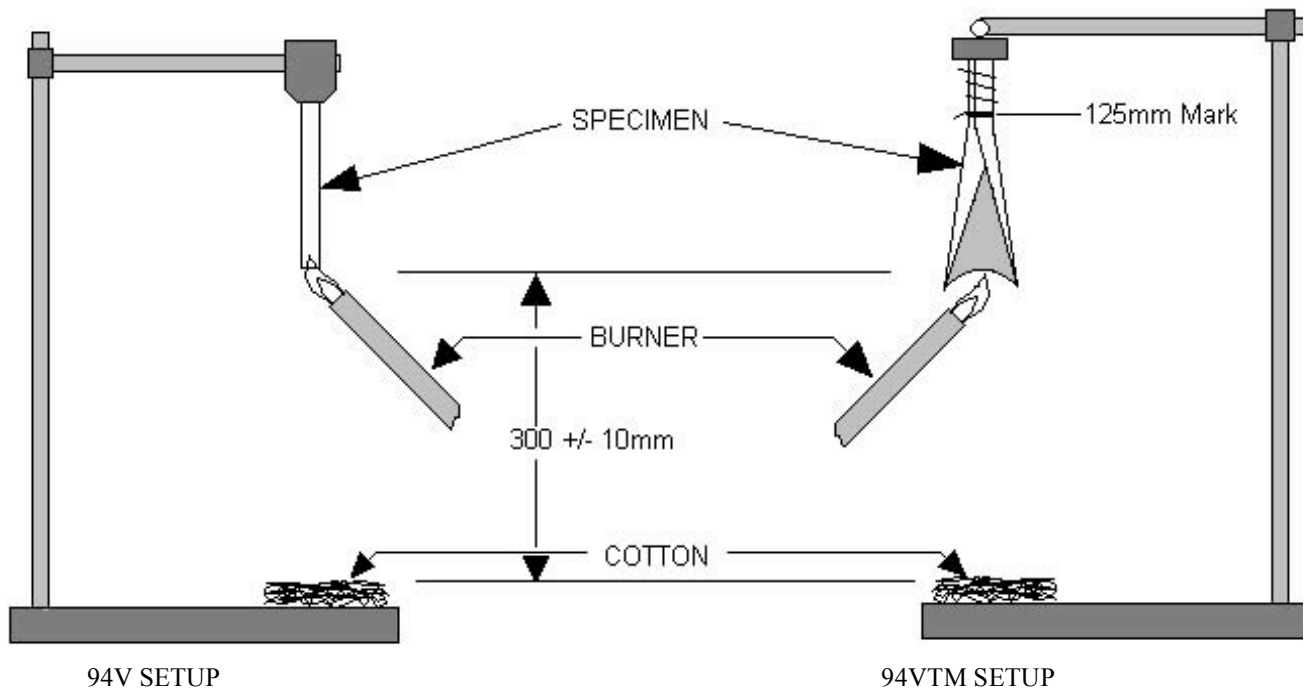

Fig. 2
This test uses a 1/2" x 5" specimen which is held at one end in the vertical position (see fig. 2). A burner flame is applied to the free end of the specimen for two-10 second intervals separated by the time it takes for flaming combustion to cease after the first application. Two sets of 5 specimens are tested. The following are recorded for each specimen:
- The specimen is rolled longitudinally around a 13mm ($\frac{1}{2}$ ") dia. mandrel and taped on one end. When the mandrel is removed the specimen forms a cone shape, which provides rigidity to the length of the specimen. See fig. 2.